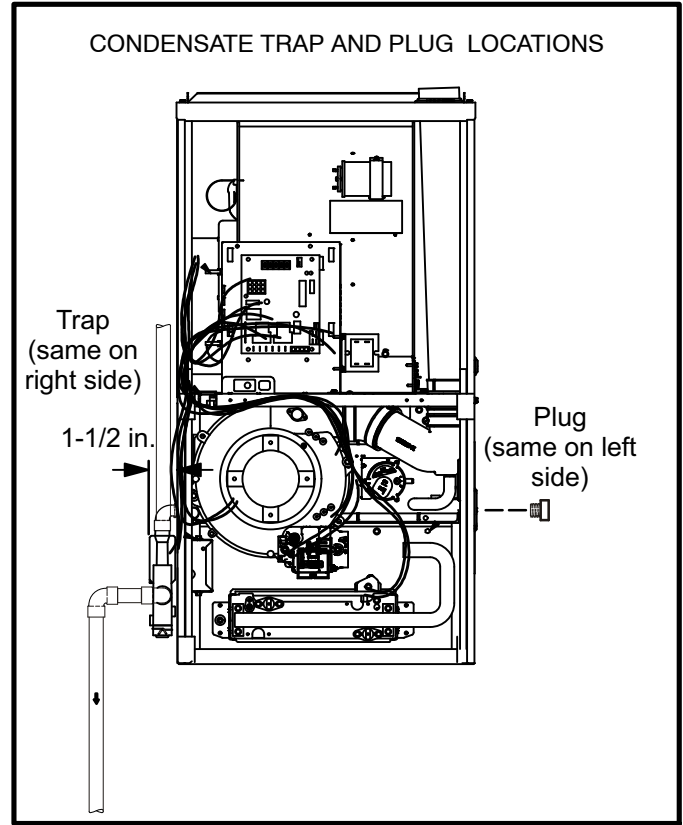

FIGURE 42
This unit is designed for either right- or left-side exit of condensate piping. Refer to figure 42 for condensate trap locations.
- 2 - Remove plug (figure 42) from the cold end header box at the appropriate location on the side of the unit. Install field-provided 1/2" NPT male fitting into cold end header box. Use teflon tape or appropriate pipe dope.